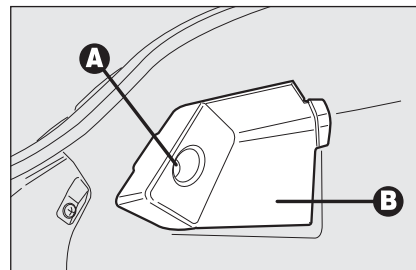

fig. 37
- loosen screw **A-fig. 37** and remove the protection cover **B**;
- refit the protection cover **B-fig. 37** and tighten screw **A**.